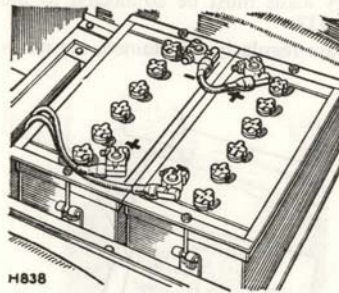

Fig. 94 Vehicle batteries, 24 volt models
- (1) **Vehicle batteries.** A negative earth return system is used, employing two 12 volt batteries connected in series, giving 24 volts output. They are located in the centre of the seat box between the driver and passenger seats, and are protected by a metal cover secured by two wing nuts. See Fig. 94.
IMPORTANT: Ensure that the batteries are connected in series and that the leads are connected as shown at Figs. 94 and 95.